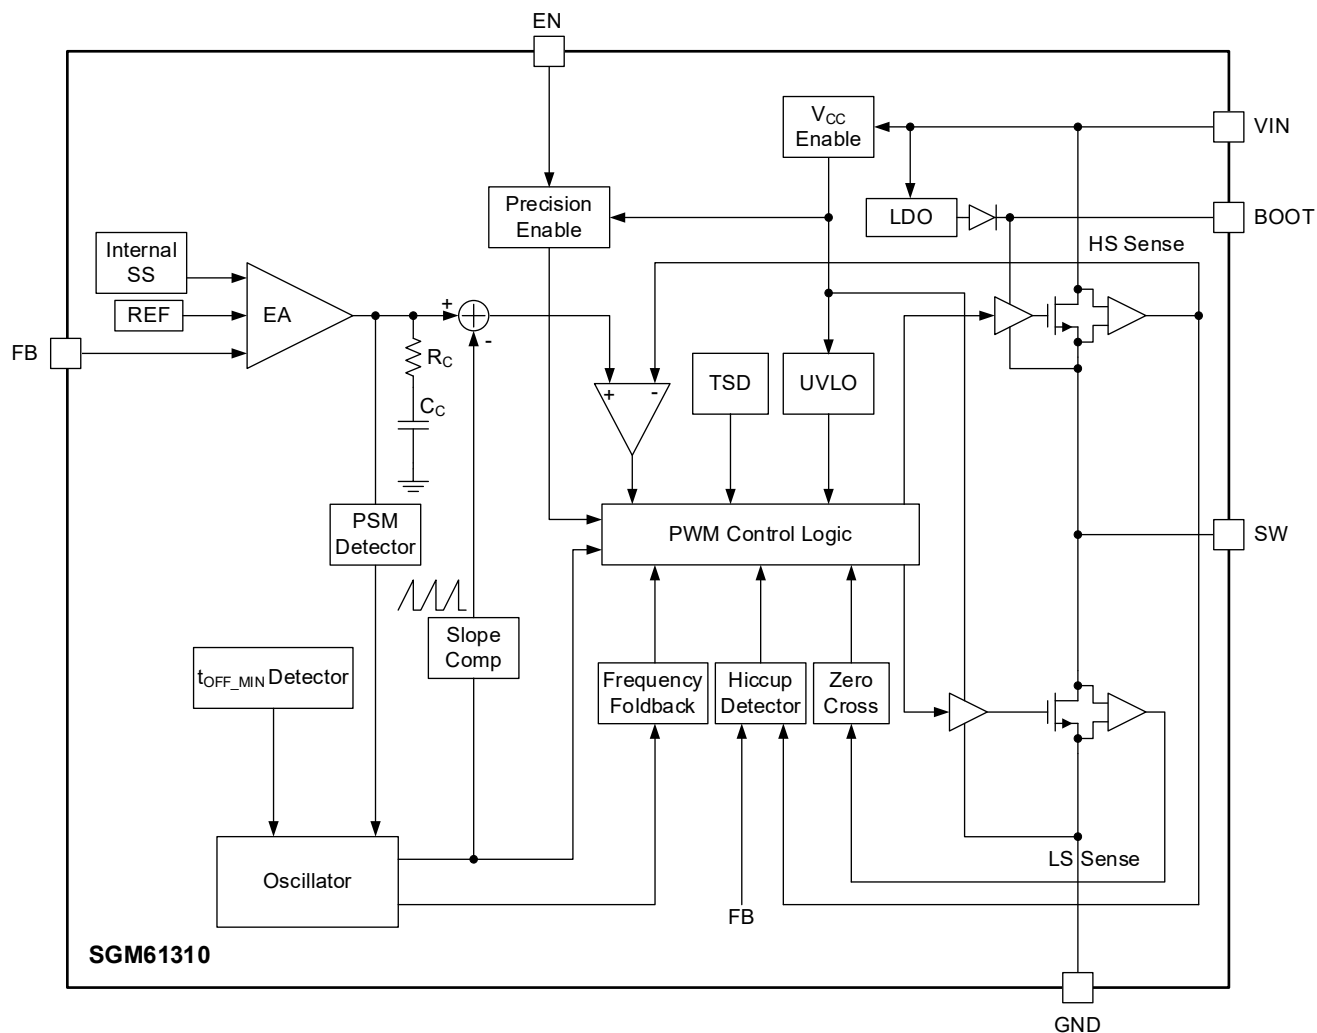
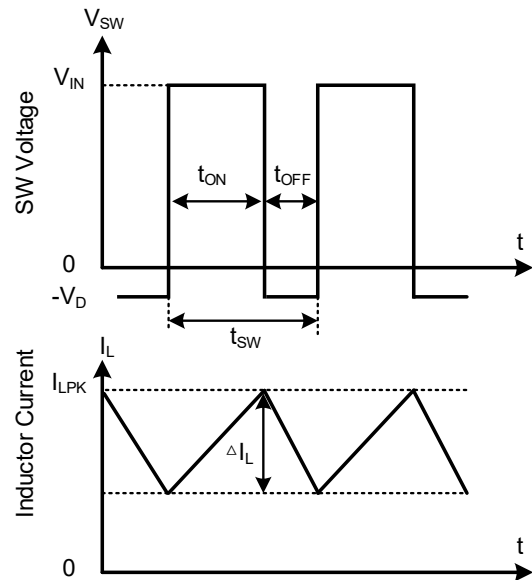
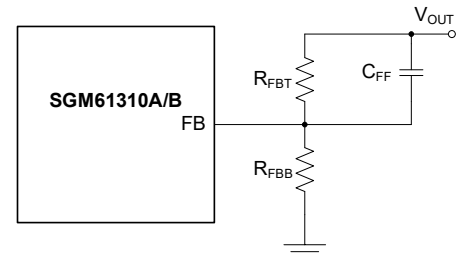

Figure 2. Block Diagram
Figure 3. Converter Switching Waveforms in CCM
Figure 6. Improving Loop Compensation by Feed-Forward Capacitor
The Functional Block Diagram and basic waveforms of these Buck synchronous regulators are shown in Figure 2 and Figure 3. The N-MOSFETs are used for high-side (HS) and low-side (LS) (synchronous rectifier) switches. The HS duty cycle ( $D = t_{ON}/t_{SW}$ ) is controlled in closed loop to regulate and maintain the output voltage at a constant level. The switching period is  $t_{SW} = 1/f_{SW}$ , and the HS on-time is  $t_{ON}$ . When HS is turned on, the SW node voltage sharply rises towards  $V_{IN}$ , and the inductor current ( $I_L$ ) starts ramping up with  $(V_{IN} - V_{OUT})/L$  slope. When HS is turned off, the LS is turned on after a very short dead time to avoid shoot-through, and  $I_L$  ramps down with  $-V_{OUT}/L$  slope. When the inductor current is continuous (either due to sufficient load, or FPWM), the output voltage is proportional to the input voltage and duty cycle ( $V_{OUT} = D \times V_{IN}$ ) if component parasitics are ignored.
The SGM61310A/B is internally compensated (see Figure 2) and is stable over the entire  $f_{SW}$  and  $V_{OUT}$  operating range. However, the phase margin can be low for some ranges of  $V_{OUT}$  when low ESR ceramic capacitors are used in the output. In such cases, it is recommended to use a feed-forward capacitor ( $C_{FF}$ ) in parallel with the  $R_{FBT}$  to improve the transient response as shown in Figure 6.
current to determine the HS turn-off time (on-time). See Figure 2 for details. Before comparison, the EA output is clamped to a fixed maximum threshold ( $I_{HS\_LIMIT}$ ) to limit the current. So, the peak current limit of the high-side switch is not affected by the slope compensation and remains constant over the full duty cycle range.
An external resistor divider is used to set the output voltage as shown in Figure 6. Use Equation 9 to set  $V_{OUT}$ :